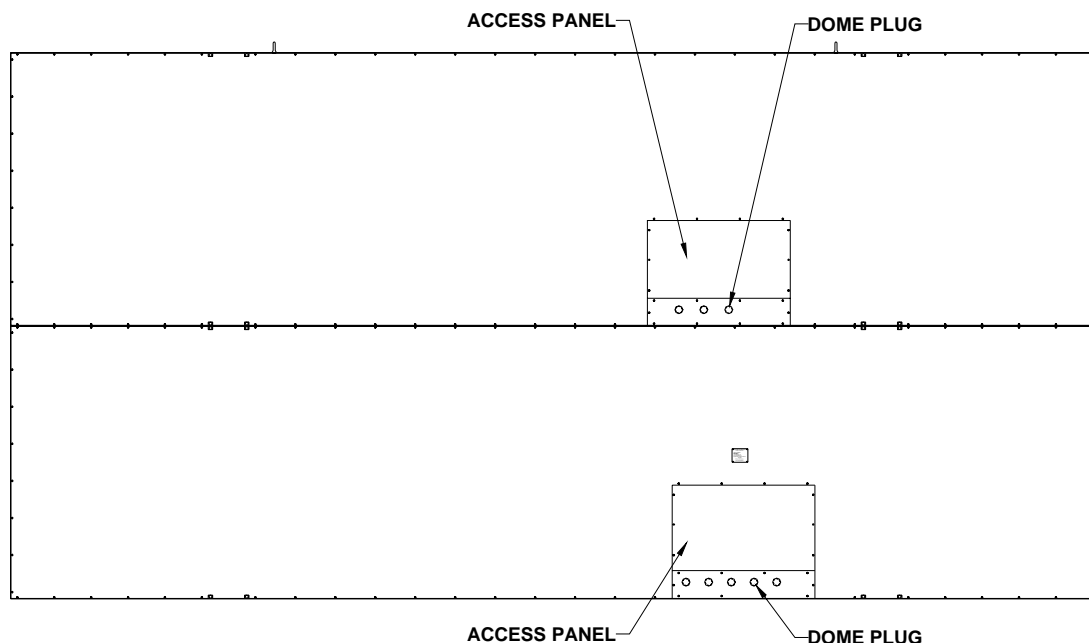

Figure 5 Rear Access Panels
3. Remove the rear access panels and the dome plugs on the plates below the access panels. Figure 5 shows the location of the access panels and the dome plugs.